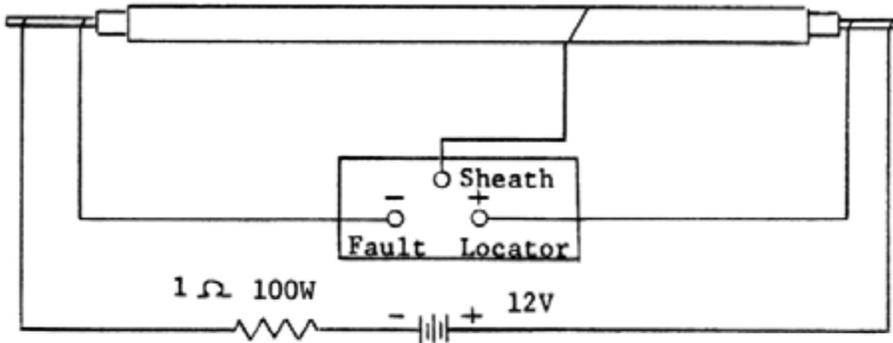
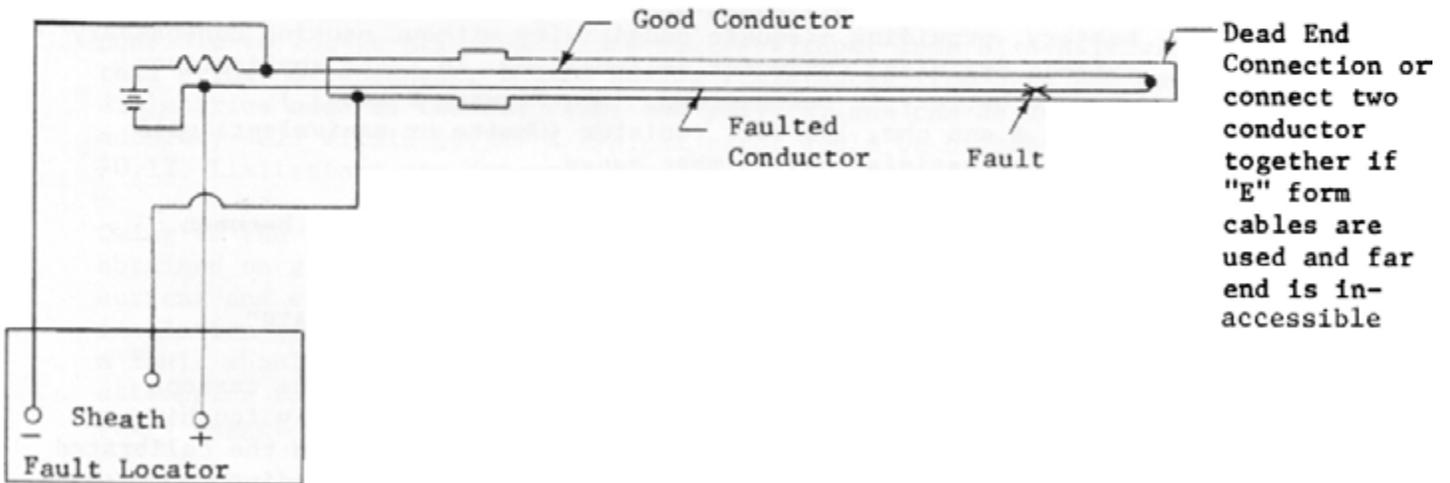

FIGURE 2: Fault to sheath; both ends of faulted conductor accessible at the same point.
FIGURE 3: Fault to sheath, two conductor cable.
A. CONNECTIONS WHEN BOTH ENDS OF THE FAULTED CONDUCTOR ARE AT THE SAME POINT. SEE FIGURES 2 & 3.
- 3) When testing conductors having a loop resistance of less than one ohm, use a one-ohm resistor in series with the battery. This limits the current to some value less than 12 amps from a 12-volt battery, providing adequate sensitivity without causing unnecessary current drain and conductor self-heating. In these applications an auto battery is recommended. (See Figures 2 and 3.)
NOTE: The total length of the cable loop means the total length of cable between the potential points, that is, the points at which the leads to the terminals of the instrument are connected to the cable. This equal to the length of the cable in the case shown in Figure 2 but is equal to twice the length of the cable in Figure 3.